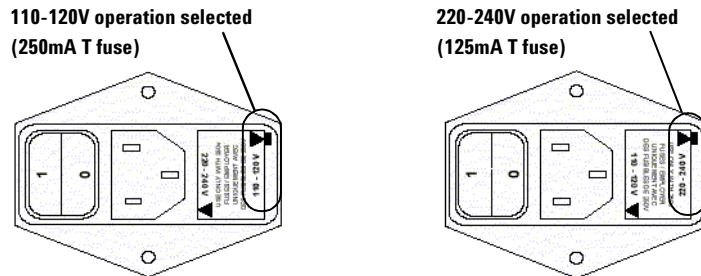

Figure 66 Replacing the Fuse
- 2 Install the correct fuse in the “selected” position as shown in Figure 66.